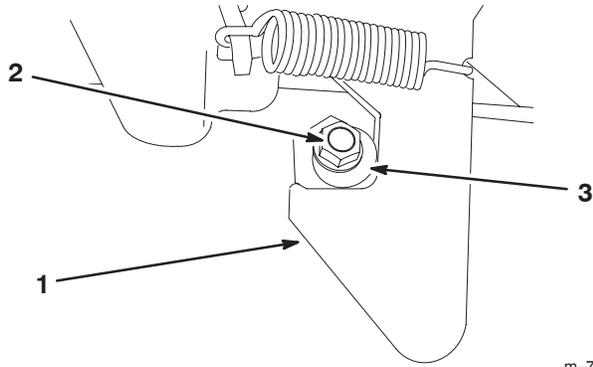

Figure 24
1. Loosen the nut on the end to the latch post (Fig. 24).
2. Turn the latch post clockwise until it is snug against the latch and then tighten the nut (Fig. 24).